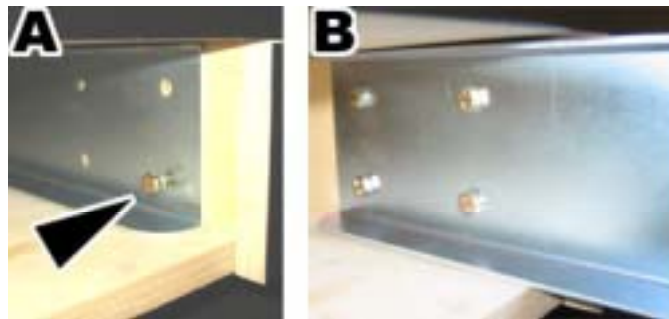

Figure 3. Installing the Seat Runners
2. The seat runners may be packaged and placed with the seat or cabinet, or installed backwards in the cabinet. If the seat runners are installed backwards for shipping, use a 7/16" socket wrench to remove the four (4) 1/4-20 x 1-1/4" hex bolts with lock washers and flat washers that hold each seat runner inside the cabinet. See item A in Figure 3 below.
3. Insert the seat runners so that they extend out from the cabinet, as shown below. Secure them with the four (4) 1/4-20 x 1-1/4" hex bolts with lock washers and flat washers.